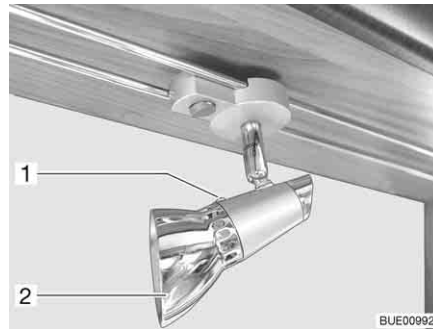

Fig. 269 Halogen spotlight (movable)
- Loosen the fixing screw (Fig. 269,1).
- Remove the lamp shade (Fig. 269,2).